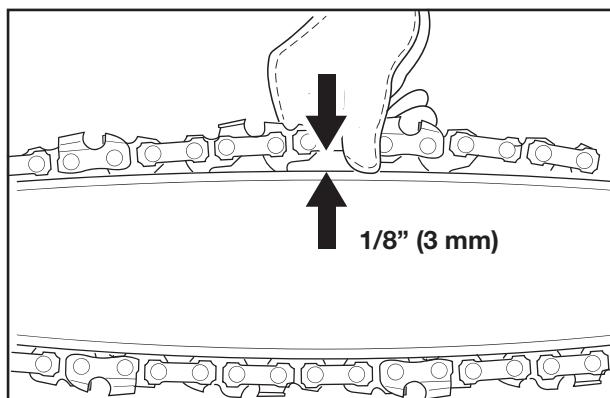

Fig. 1
1. Check the chain tension by pulling the saw chain away from the chain bar. A properly tensioned chain should have roughly 1/8 inch (3 mm) of distance between itself and the bar guide (Fig. 1).
3. To adjust the saw chain tension, the tension is correct when the drive links on the chain do not slip out of the chain guide on the bar when the chain is pulled up from the middle of the bar(Fig. 1). Rotating the chain tensioning screw upwards increases the tension while rotating it downwards